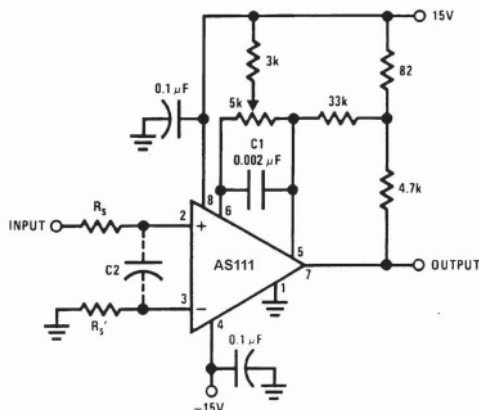

FIGURE 1. Improved Positive Feedback
However, when the input signal is a voltage ramp or a slow sine wave, or if the signal source impedance is high (1 kW to 100 kW), the comparator may burst into oscillation near the crossing-point. This is due to the high gain and wide bandwidth of comparators like the AS111. To avoid oscillation or instability in such a usage, several precautions are recommended, as shown in Figure 1 below.
inputs. If these pins are not connected to a trim-pot, they should be shorted together. If they are connected to a trim-pot, a 0.01  $\mu\text{F}$  capacitor C1 between pins 5 and 6 will minimize the susceptibility to AC coupling. A smaller capacitor is used if pin 5 is used for positive feedback as in Figure 1.
7. When both inputs of the AS111 are connected to active signals, or if a high-impedance signal is driving the positive input of the AS111 so that positive feedback would be disruptive, the circuit of Figure 1 is ideal. The positive feedback is to pin 5 (one of the offset adjustment pins). It is sufficient to cause 1 to 2 mV hysteresis and sharp transitions with input triangle waves from a few Hz to hundreds of kHz. The positive-feedback signal across the  $82\Omega$  resistor swings 240 mV below the positive supply. This signal is centered around the nominal voltage at pin 5, so this feedback does not add to the  $V_{OS}$  of the comparator. As much as 8 mV of  $V_{OS}$  can be trimmed out, using the  $5\text{ k}\Omega$  pot and  $3\text{ k}\Omega$  resistor as shown.